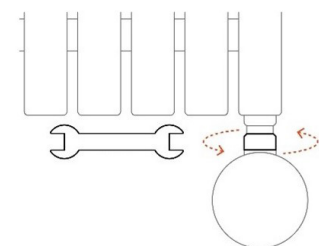

Figure 4 | Tighten element at main nut
6. Tighten the element at the main nut, using a size 24 or adjustable spanner (**Figure 4**, right). Ensure the rubber O-ring, above the main nut, makes a firm seal between the radiator and the element. This prevents leakage after installation.